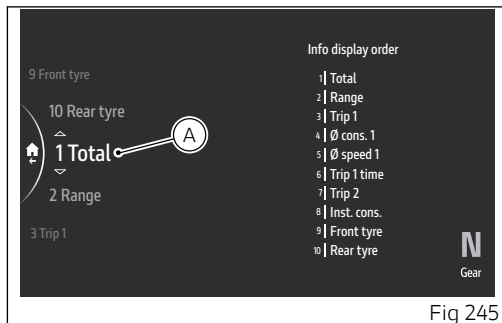

Fig 245
- Two arrows (A, Fig 245), are displayed above and below the position number indicating that it can be changed from 1 to 10 (in this example “3”) using the corresponding joystick positions ▲ ▼.